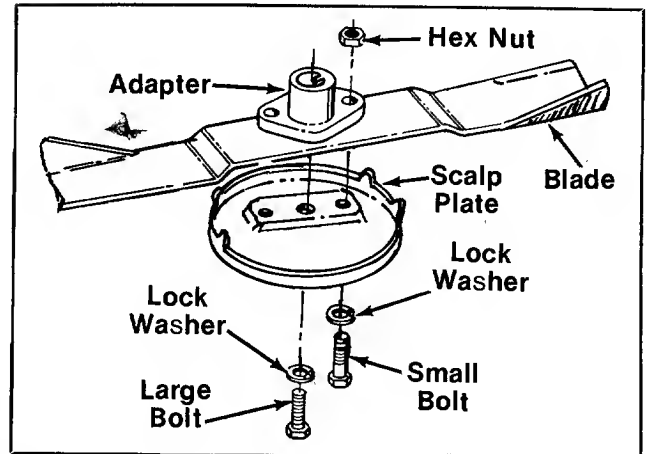

FIGURE 17.
1. Remove the large bolt and lock washer which holds the scalp plate, blade and adapter to the blade spindle. See figure 17.